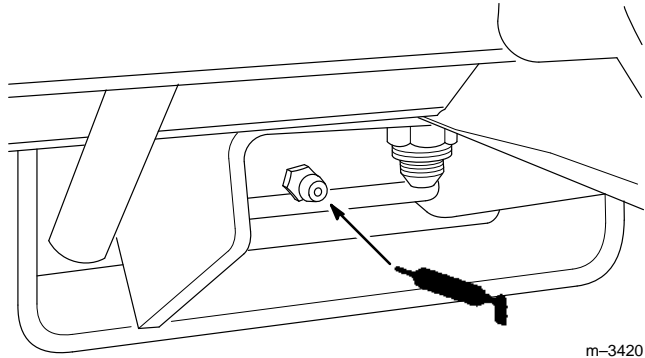

Figure 38
6. Grease the fitting on the brake pedal (Fig. 38).